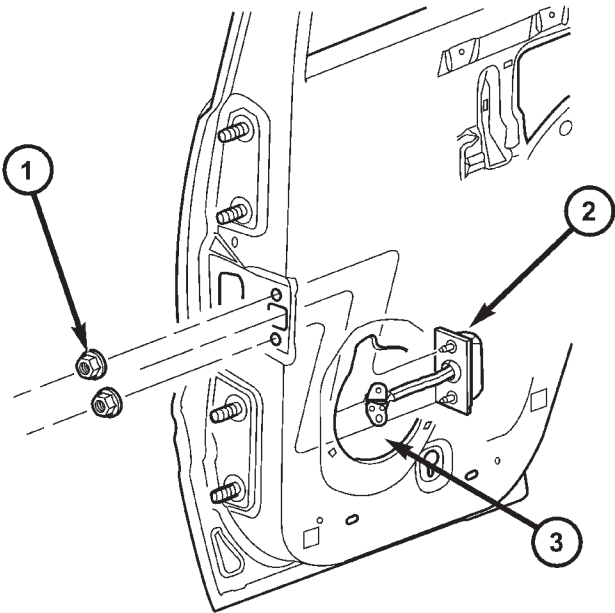

Fig. 1 CHECK STRAP
- (1) Remove the waterdam. (Refer to 23 - BODY/DOORS - REAR/WATERDAM - REMOVAL)
- (2) Remove screws attaching door check to b-pillar.
- (3) Remove the two nuts and remove the door check strap. (Fig. 1)